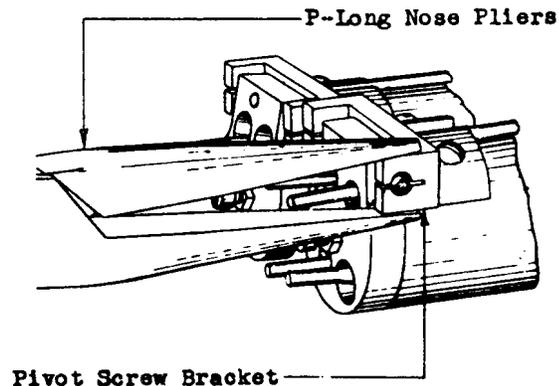

Fig. 8 - Method of Closing Up the Slot in the Pivot Screw Bracket
(1) If the pivot screws will not hold their adjusted position, remove the drop from the mounting as described in procedure 3.03 (5) and remove the pivot screws from the pivot screw bracket with the No. 74 wrench where the pivot screws have hexagon heads, or with the KS-6854 or R-1005 jeweler's screwdriver where the pivot screws have slotted heads. Then close up the slot in the bracket with the P-long nose pliers as shown in Fig. 8. Replace the screws and check requirement 2.03.
(2) If the pivot screws are too tight in their brackets, the slot in the bracket may be widened by forcing the blade of the KS-6854 screwdriver into it.